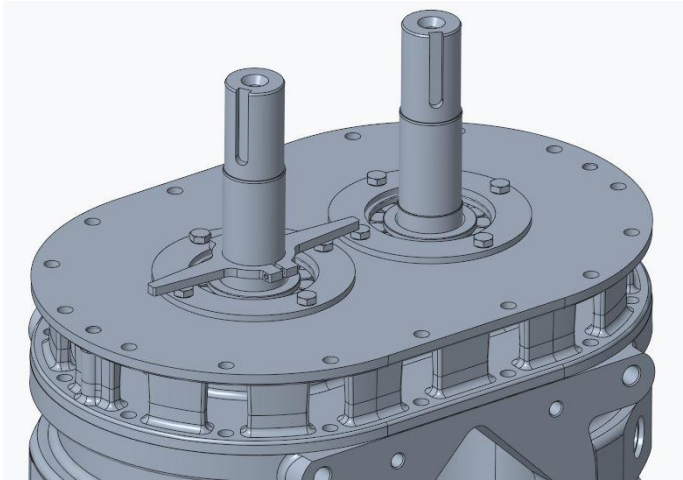

Fig. 6
19. Measure the inter-lobe timing in the four locations identified in the clearance sheet. Use 2 feeler gauges that add up to the correct thickness when measuring inter-lobe clearances. If the inter-lobe clearance is outside of the required specification, loosen the gear clamp retaining bolt (29) using an 8mm hex key and repeat step 17 using a different sized feeler gauge. Change feeler gauge size by 0.001" for each iteration. Record the final inter-lobe clearance measurements.
20. Remove the 3 remaining gear clamp bolts (29) with an 8mm hex key one at a time, add Loctite 243, and reinstall. Once all gear clamp retaining bolts have been tightened, torque the bolts down to 30 lb-ft, then torque the bolts down to 69 lb-ft. Re-torque each bolt after the initial tightening to 69 lb-ft to verify that the bolts are torqued evenly. Do **NOT** apply too much Loctite, as any extra Loctite will seep into the space between the gears (30) and the retainers (34). Remove the timing lock tool.
21. Slide the oil slinger (38) onto the bottom side DE rotor shaft. Slide the oil slinger until it is against the first shaft edge outside of the bearing (8) as shown in figure 6. Apply Loctite 243 and tighten the oil slinger retaining bolt with a 7mm wrench.